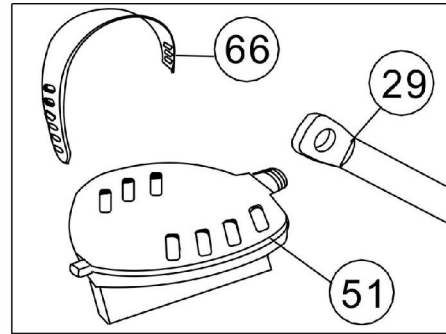

Figure 9
attach the Left & Right pedals (51) to the Crank axis (29). The Left Pedal (51L) should be threaded on counter-clockwise. The Right Pedal (51R) should be threaded on clockwise. (See figure 9)
**NOTE:** The Left & Right Pedals (51) are marked with "L" & "R".